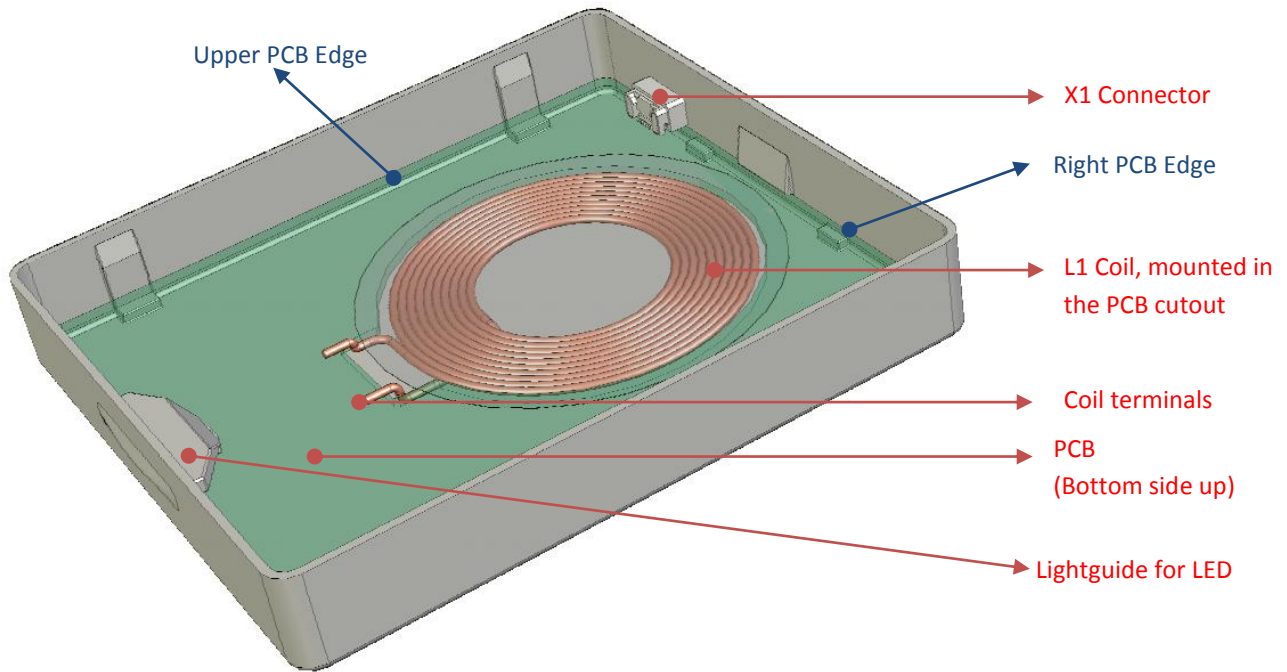

Figure 1. The 3D view of the wireless charger's enclosure.
MEC-002	The X1 connector must be placed on the bottom side of the PCB, aligned to the right edge, as illustrated in figure 1. The center of pin 3 of the connector shall be exactly 7mm away from the upper edge of the PCB and its orientation must allow attachment of an external cable.
The PCB of the wireless charger shall fit in the plastic enclosure presented in figure 1.
PCB-009	Components U2 and Q3 must be provided with proper thermal pads/areas/clearance for cooling. The PCB area under the exposed pad (EP) of U2 must be covered with copper and must be connected with a 5x5 via matrix to a copper area on the opposite side of the PCB of at least 4.1mm x 4.1mm. Thermal area for Q3 must follow the indications of Figure 1 on page 10 in the datasheet of the component.